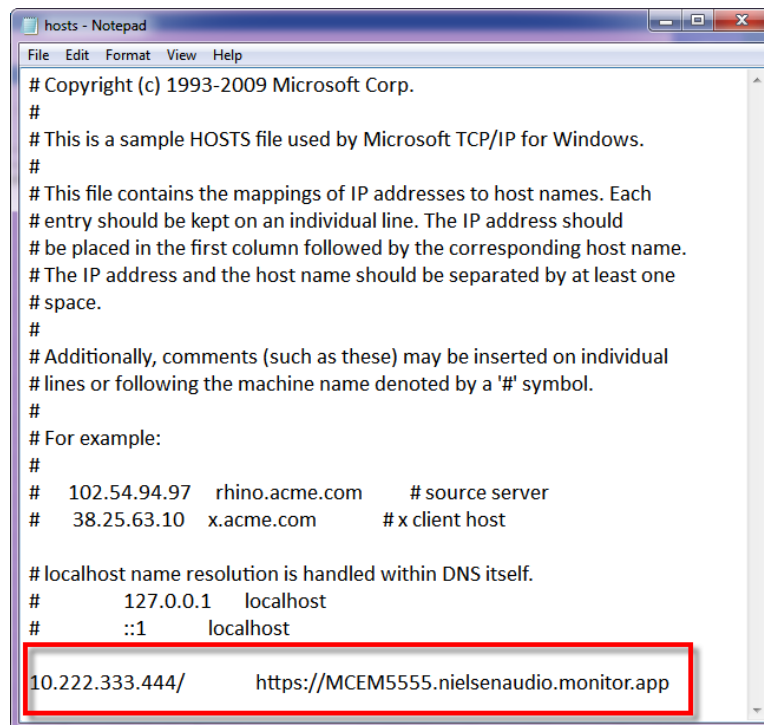

Figure 64: Example Hosts File
4. In Notepad, at the end of the hosts file (Figure 64), do the following:
Figure 64 shows an example of a URL for accessing the monitor with the IP address 10.222.333.444: